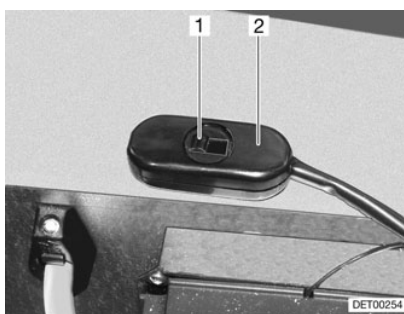

Fig. 67 Rotational speed reduction switch
The rotational speed of the circulating pump can be set with the sliding switch (Fig. 67,2). At a lower rotary speed, the operating sounds of the pump are quieter.
- Push sliding trap (Fig. 67,1) towards the right. The output is reduced.